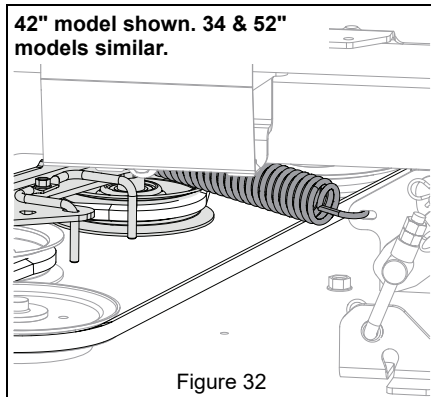
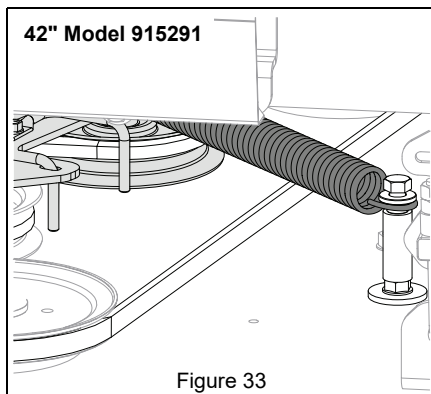

Figure 32
Figure 33
3. Reinstall PTO idler spring hook around anchor location to apply belt tension. See Figure 32 & Figure 33.